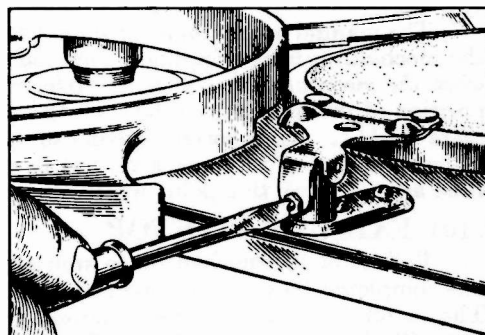

Figure 10—Record transfer lever adjustment
- (c) Improper height of record transfer lever. The small plate on top of the motor board at the left side of the turntable should be so adjusted that it will depress approximately $\frac{1}{32}$ " when the magazine swings over the turntable. When this adjustment is made correctly, the transfer lever will engage the bottom record in the magazine as the latter is swinging back into the playing position. A small adjusting screw and lock nut are provided for this adjustment. See Figure 10.